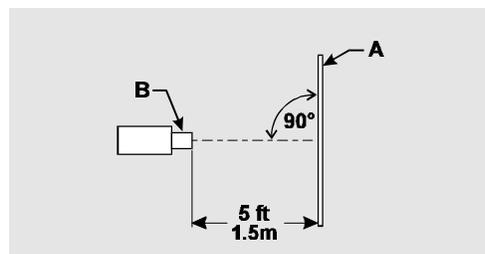

Figure 4-7. Backdrop Position for Calibration
7. Position the blue backdrop (A) supplied with the ID-4000 exactly 5 feet (1.5 meters) from the camera lens (B). Make sure the backdrop is perpendicular (90°) to the lens axis as shown in (Figure 4-7).